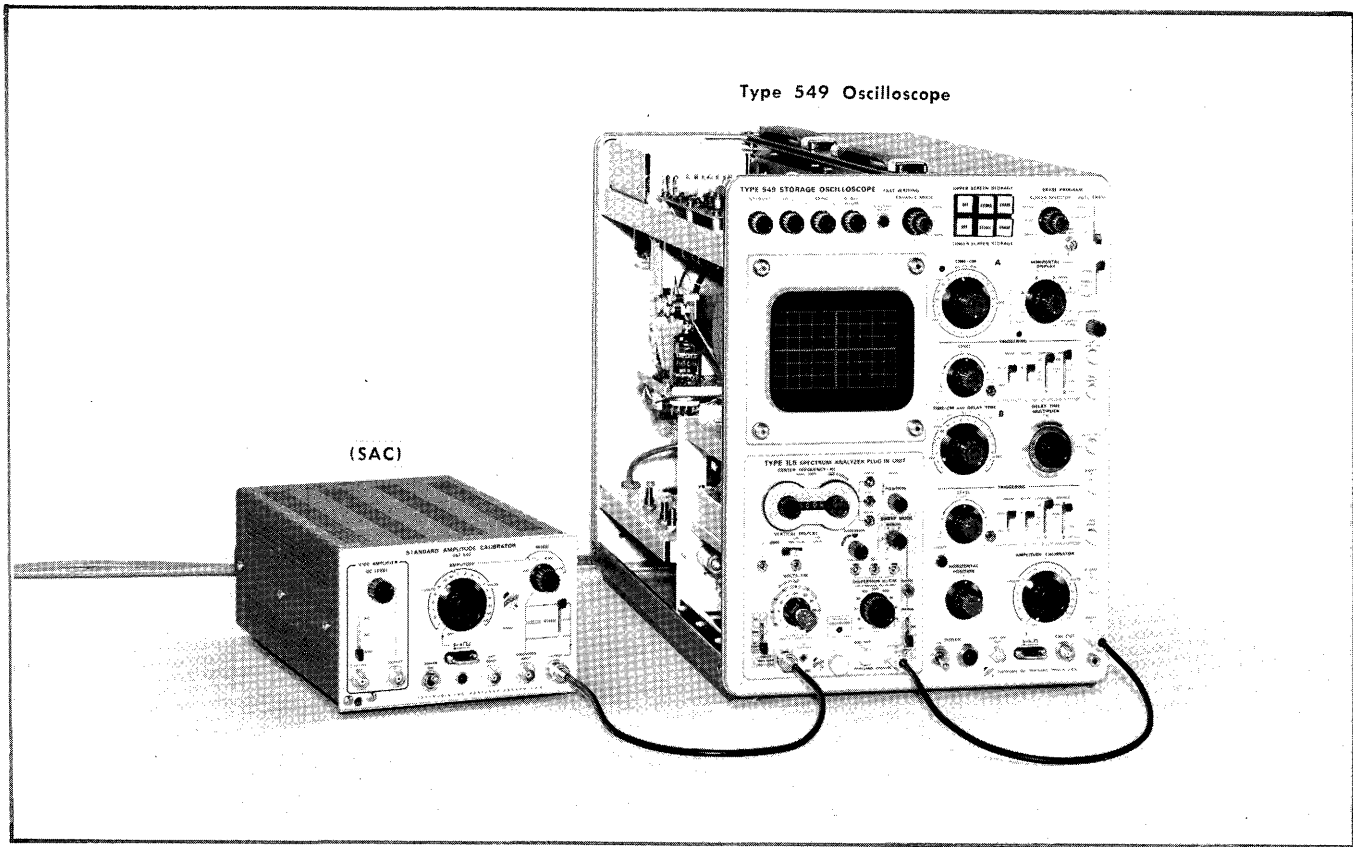

Fig. 6-18. Test equipment setup to adjust and check vertical deflection factor.
- a. Equipment setup is shown in Fig. 6-18.